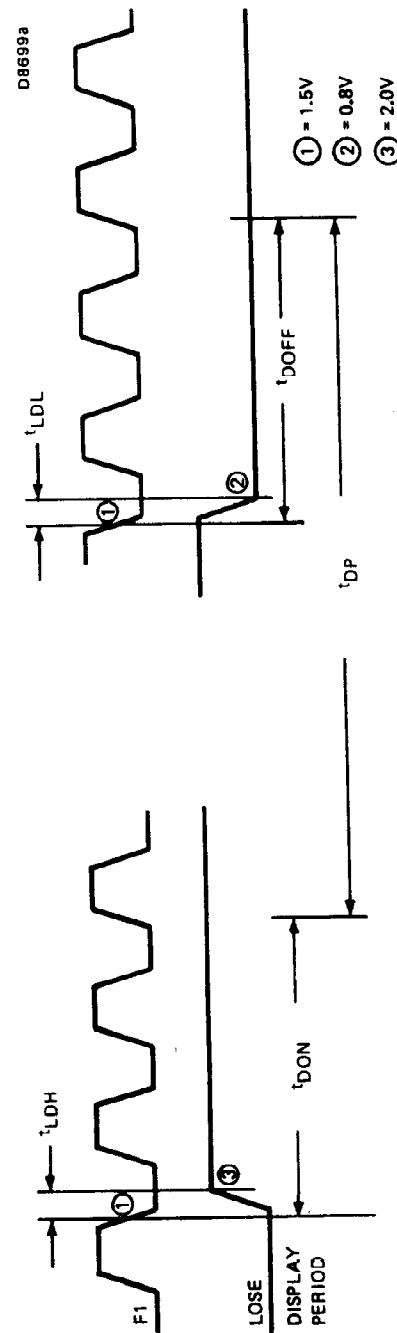

Fig.5 Display period timing (for typical 40 character display)
**Display period timing (Fig.5)**